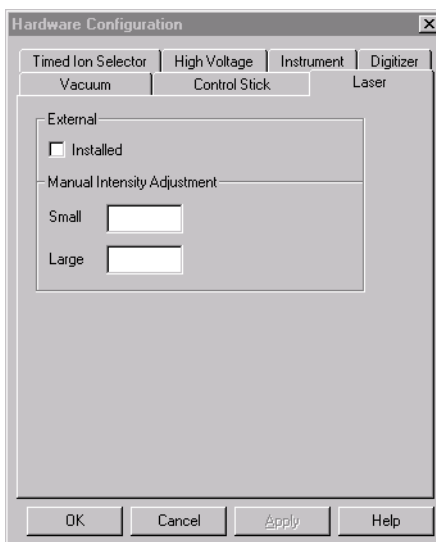

Figure 2-19 Laser Configuration
2. Click the **Laser** tab to display the Laser page (Figure 2-19).